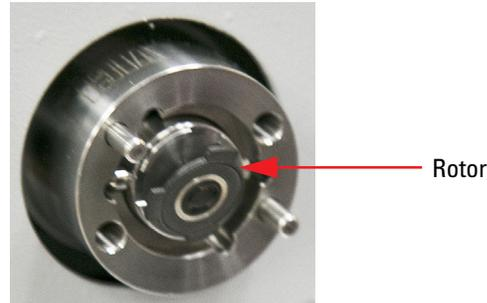

Figure 2: Removing the rotor
3. When the stator is removed, use your finger or a small tool to pry the black plastic rotor out of its recess (Figure 2).